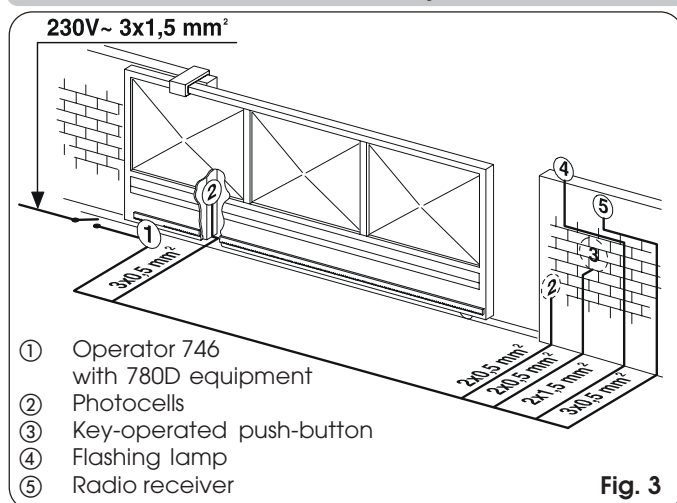

Fig. 3
- 4) Lay the electric cables for connection to the accessories and power supply as shown in figure 3.